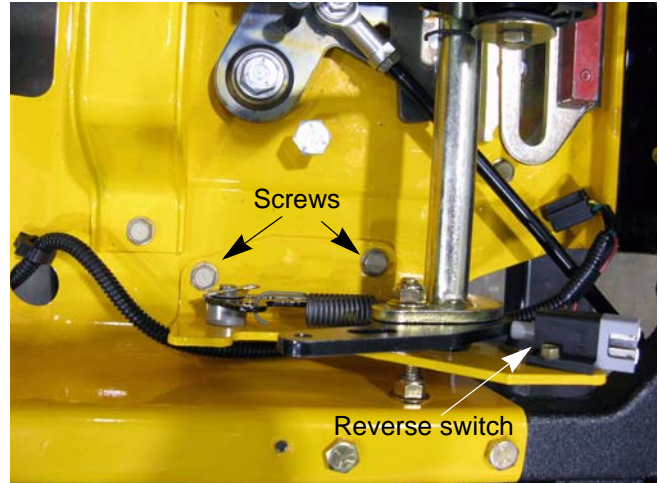

Figure 4.46
17. Remove the two screws that hold the right control pedal bracket to the frame using a 1/2" wrench. See Figure 4.46.